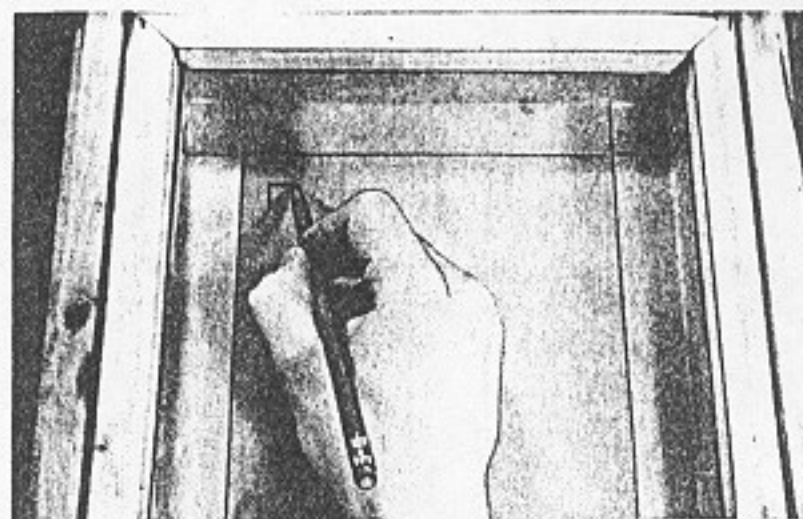

Fig. 181. Corner Mark Guide for Adhering Stencil
2. It is suggested that some kind of register device, or jig, be used when cutting the stencils. Such a device is illustrated in Fig. 125. If a separate screen frame is to be used for each color then they should all be of the same size and a corner mark should be placed directly on the silk with a soft pencil, Fig. 181, to guide the craftsman in adhering the stencils.